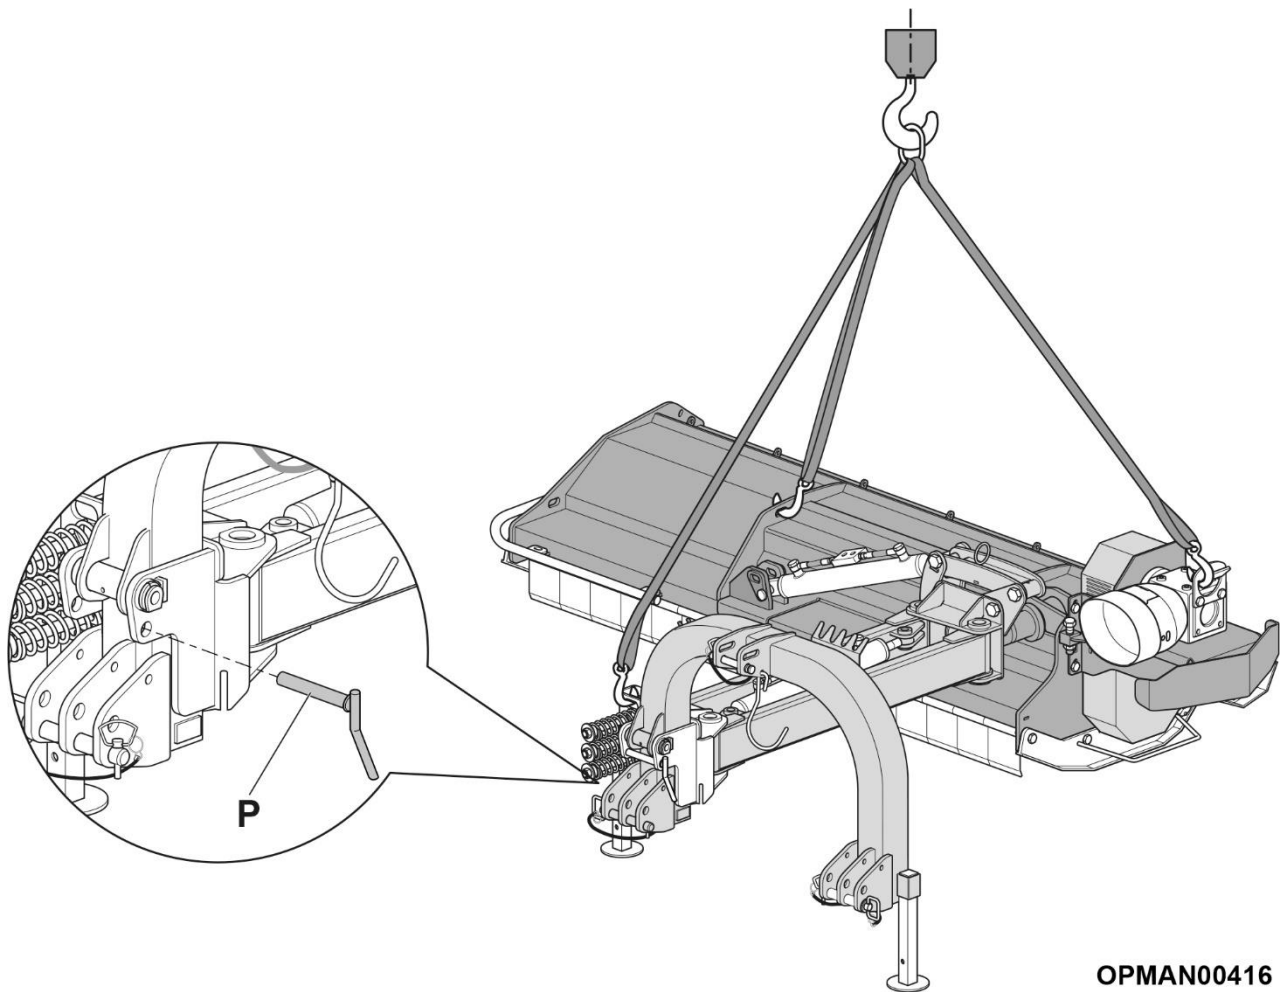

Figure 6
The Mower is supplied fully assembled and protected with a "heat-shrink" plastic cover. Handles protrude from the cover for lifting and vertical handling of the mower with straps or cables able to withstand the machine's weight, as illustrated in Figure 6.
When transporting the Mower, **it is mandatory** to insert the pin (P) to lock the parallel arms shown in Figure 6.
The Mower features a gearbox with a 1" 3/8 spline power take-off that can be adapted to any agricultural tractor PTO with an input PTO shaft. On first installation simply remove the machine from its packaging, remove the pin (P) which locks the parallel arms (Figure 6) and proceed to the proper preparation of the machine.